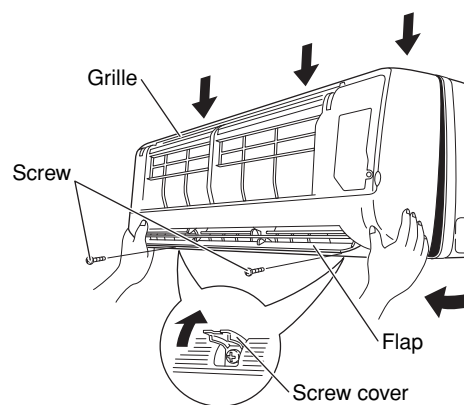

Fig. 17-3
- (2) Remove the 2 screws where the screw covers are open. Grasp the grille on both bottom sides, and pull it towards you slightly. (Fig. 17-3)
- (3) Press the 3 tabs on the top of the grille to disengage them. (Fig. 17-3)
- (4) Pull the grille towards you to remove it. (Fig. 17-3)